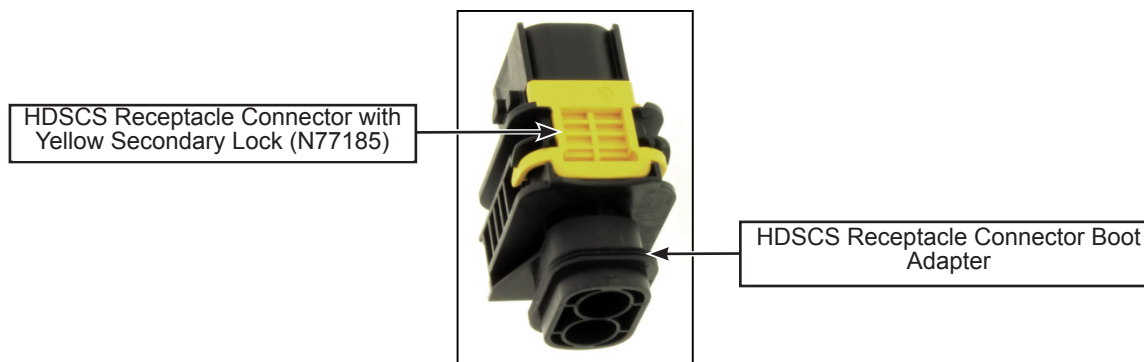

Figure 16 - TE Connectivity HDSCS Receptacle Connector
- 1.28. Insert the RED wire into position 1 and the BLACK wire into position 2 of the HDSCS receptacle connector PN N77185. Make sure that the yellow secondary lock of the plug connector is completely pressed (to move it from the unlocked to the locked position) after inserting both terminals (see Figure 16). Refer to Annex 2 for detailed instructions about terminals insertion and secondary lock.